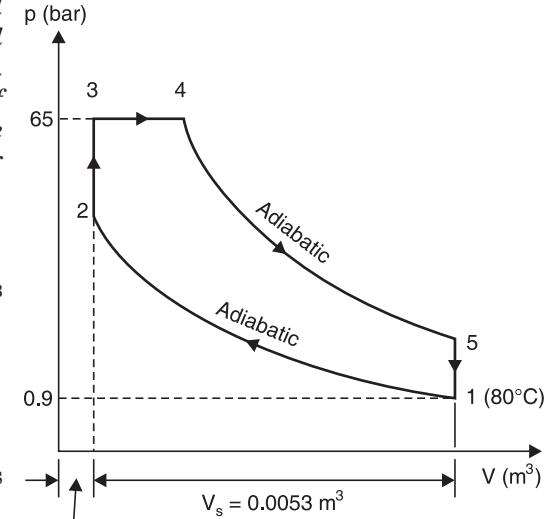

Fig. 4.20
**Solution.** Refer to Fig. 4.20.